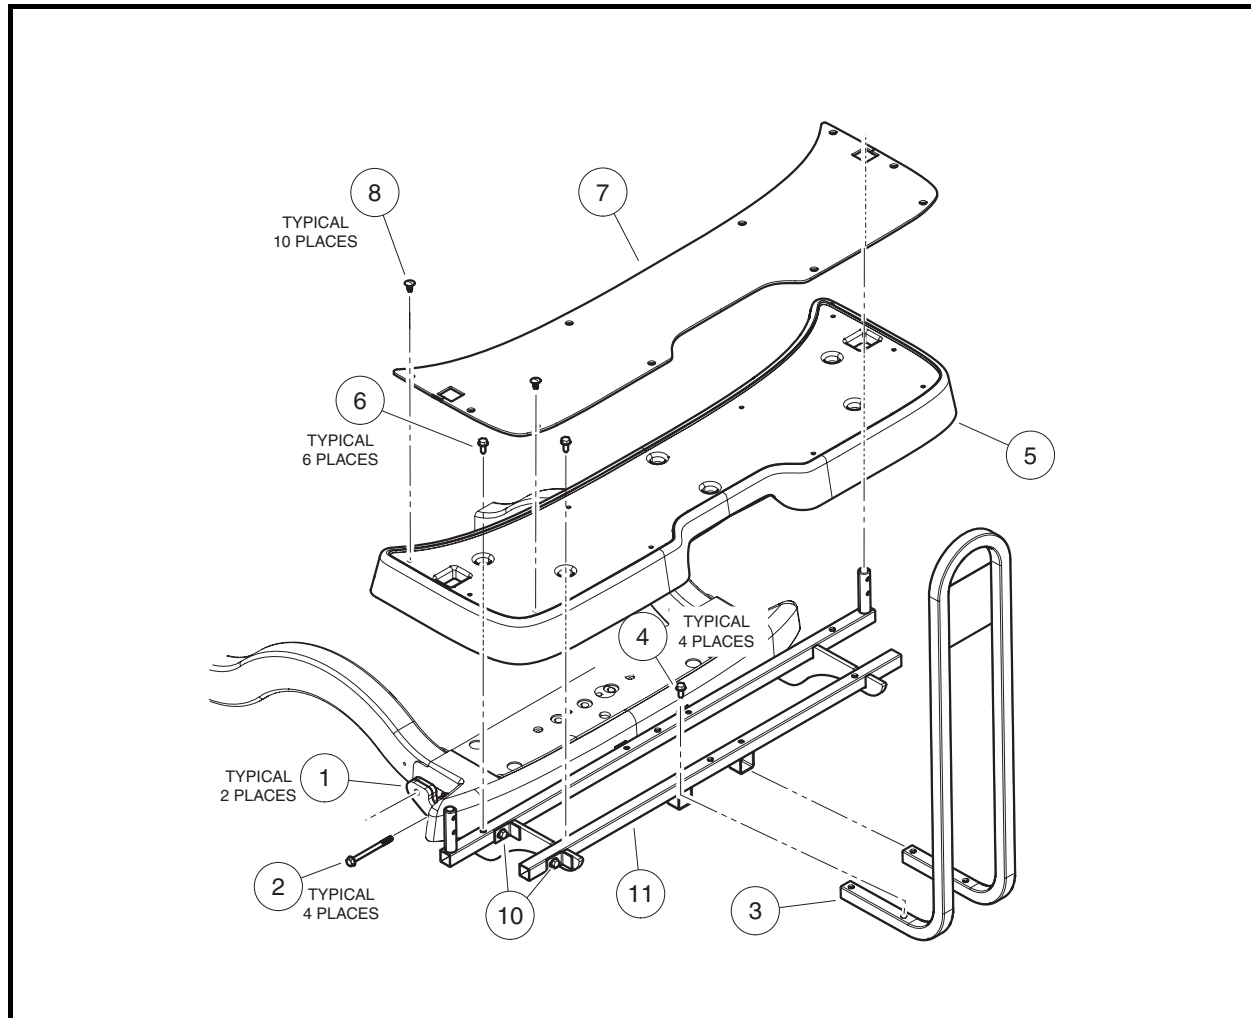

Figure 4-10 Foot Deck (Four-Passenger Vehicles)
4. Remove the four bolts (2) securing the foot deck (1) to the vehicle frame (**Figure 4-10, Page 4-14**).
2. Tighten bolts (2) to 71 in-lb (8 N·m) (**Figure 4-10, Page 4-14**)